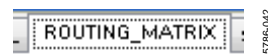

Figure 42. Selecting the ROUTING\_MATRIX Tab
3. Click the **ROUTING\_MATRIX** tab (see Figure 42) to allow the configuration of the routing matrix.